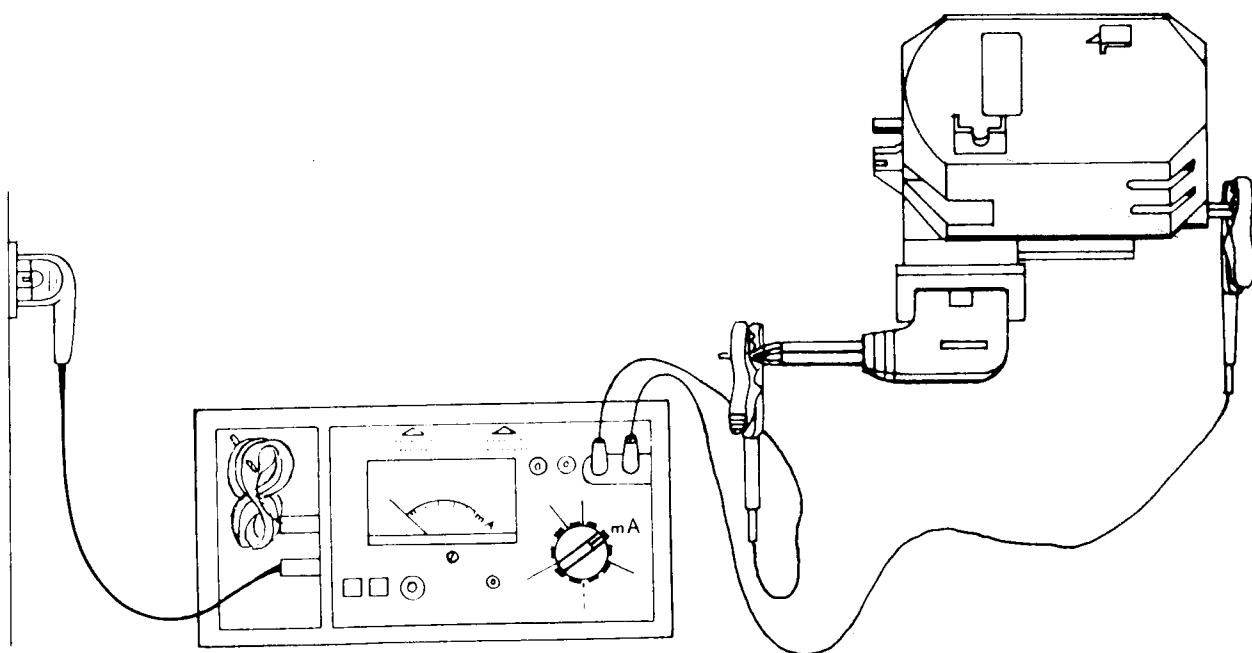

Fig. 67
- * Fit angular plug No. 92-924800-04 and screw on nut No. 92-320068-05. Connect the two leads as shown in Fig. 67.
- * Connect two leads to Metrator at right (see Fig. 67).